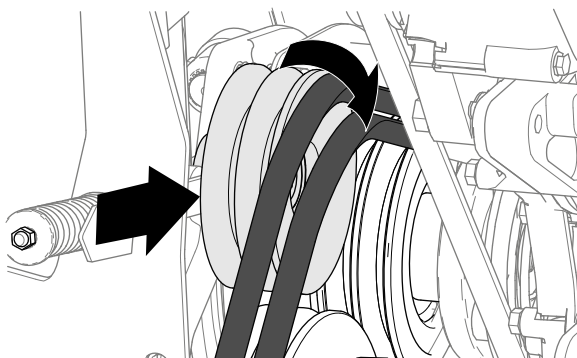

Figure 93
9. Rotate the idler pulley toward the engine and remove the belts from the machine (Figure 93).